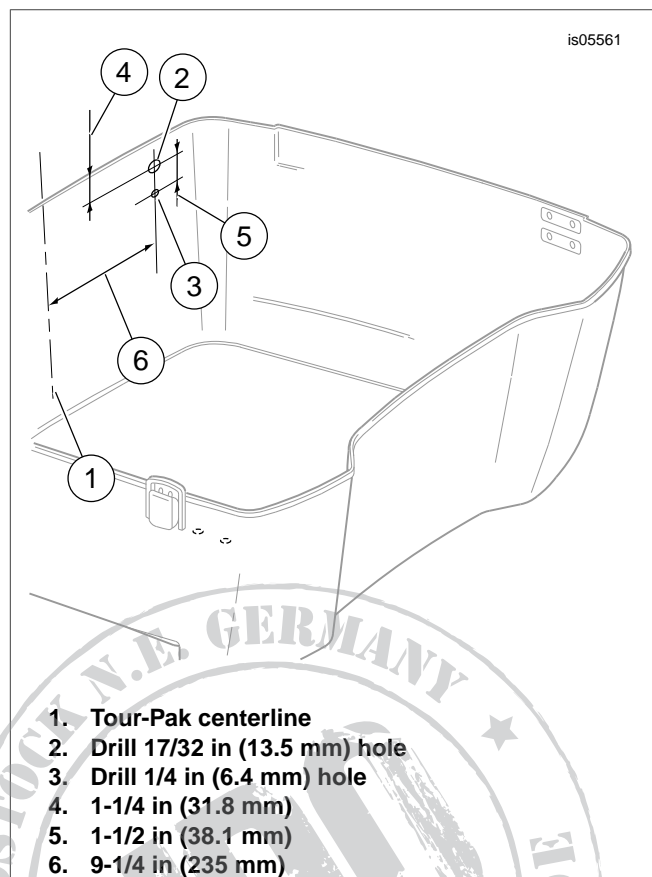

Figure 1. Tour-Pak AM/FM Antenna Drilling Location
5. See Figure 1. Measure and determine the center (1) of the outside rear Tour-Pak wall.